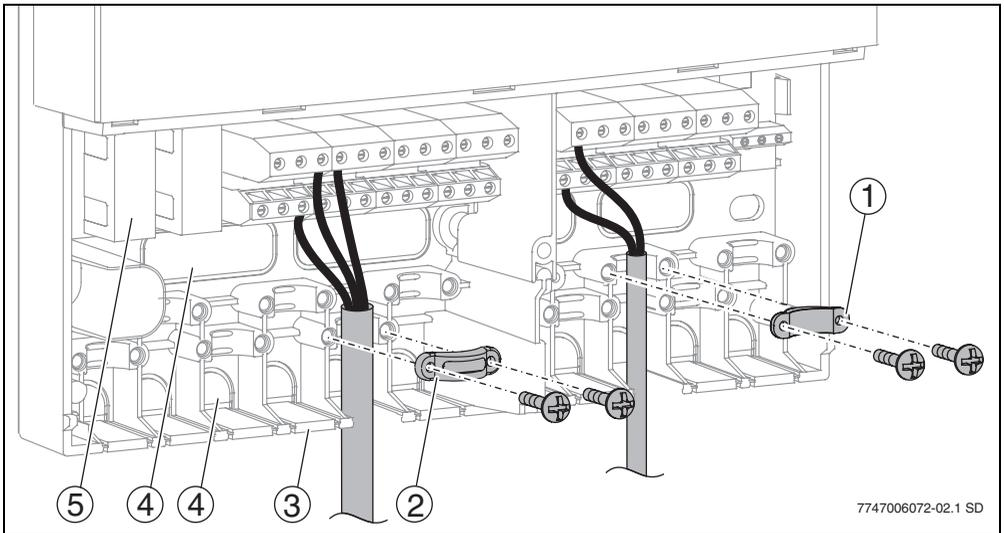

Fig. 8 Feeding in and securing cables
The cables can be fed into the housing from behind (→ Fig. 8, item 4) or from below (→ Fig. 8, item 3).
- To avoid jagged edges, cut out the cable entries with a knife (→ Fig. 8).
- Secure cables with the appropriate cable grips (→ Fig. 8, item 2). The strain relief clamp can also be fitted in the reverse position (→ Fig. 8, item 1).